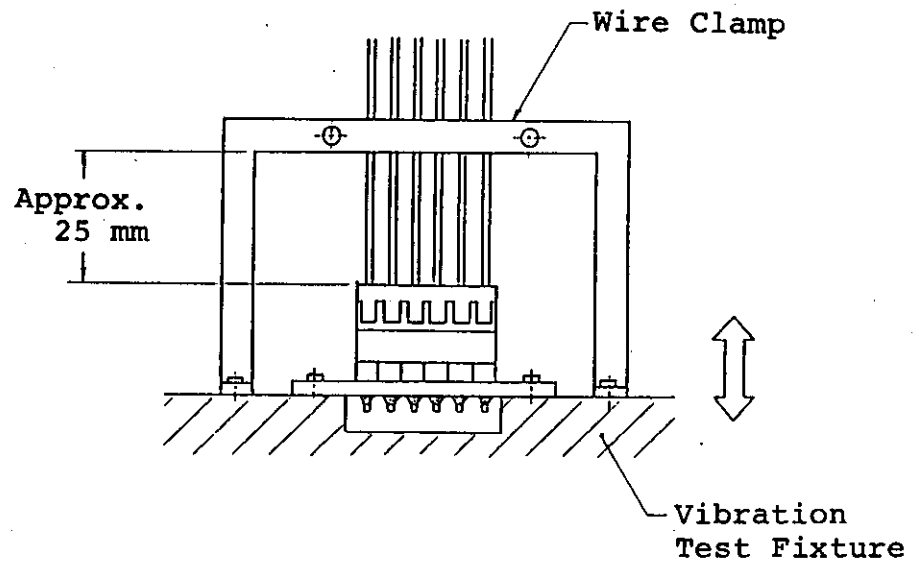

Fig. 2
- (e) Mounting : See Figure 2.